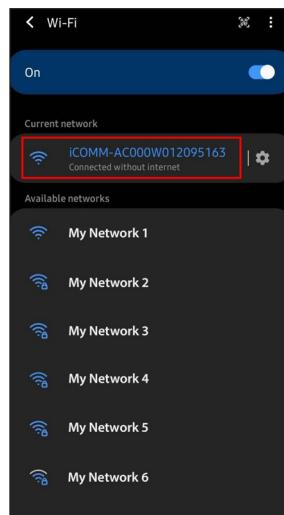

Figure 154 - Wi-Fi Settings on Device
- 3 Open the Wi-Fi settings menu on your device and search for the iCOMM network. Connect to the iCOMM network (Figure 154). Return to the app and select “Continue” to proceed to the next step.